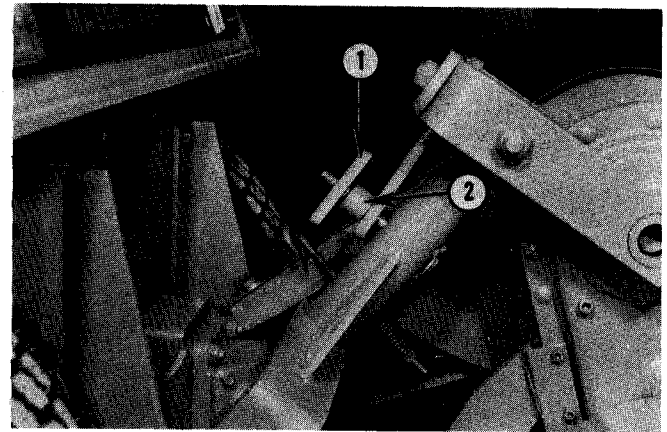

Fig. 9 - DRIVE BELT ADJUSTER
8. Reset correct belt tension by screwing down on adjuster until it almost touches spacer, Fig. 9.